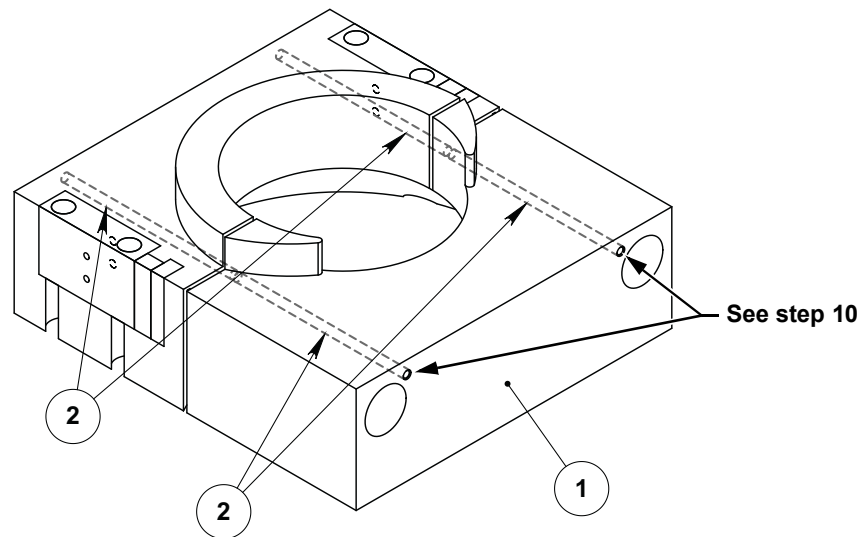

Figure 5: Metal tubing in drilled holes in stabbing bell
8. Insert four of (Item 2) metal tubing in drilled holes in both halves of (Item 1) stabbing bell as shown in Figure 5.
10. Loctite 480 or equivalent can be added to the ends of (item 2) metal tubing if there is a loose fit in (item 1) polymer stabbing bell.